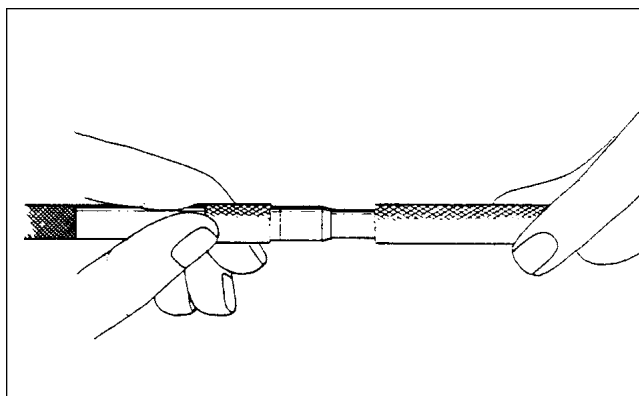

Figure 8-22. Inserting Stripping Tool
d. Be sure the stripping tool is inserted past the cutting mark. Then cut the shielding with a sharp knife using a rolling motion. Remove the shielding and stripping tool. **Take care not to cut the silicone insulation.** Refer to Figure 8-22.